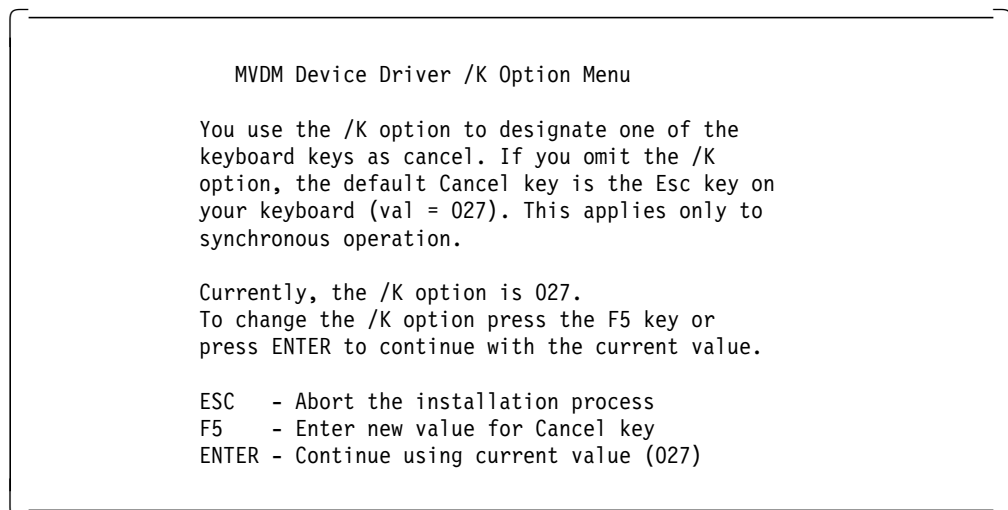

Figure 74. MVDM Device Driver /K Option Menu
3. Press Enter and Figure 74 will be displayed.